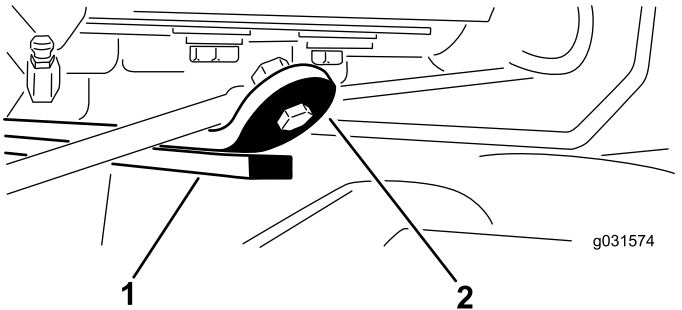

Figure 9
3. Start the engine, raise the cutting units, and ensure that the clearance between the wear strap on the top of the rear-cutting-unit wear bar and the bumper strap is 0.51 to 2.54 mm (0.02 to 0.10 inch) as shown in Figure 9.